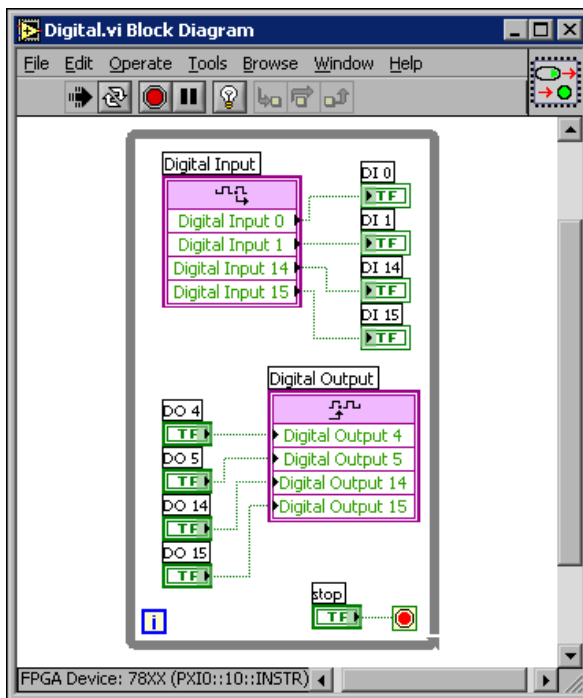

Figure 6. Block Diagram of the FPGA VI
5. Select **Window»Show Block Diagram** to view the block diagram, as shown in Figure 6. Notice how the indicators and controls are wired to the Digital Input and Digital Output functions.